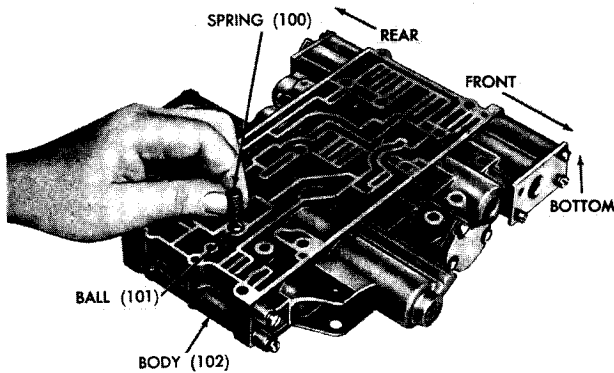

Fig. VIII-13 Installing selector valve detent ball and spring
(14) Installing selector valve detent ball and spring (fig. VIII-13). Install ball 101 and spring 100 into the hole which registers with the manual selector valve indentations.